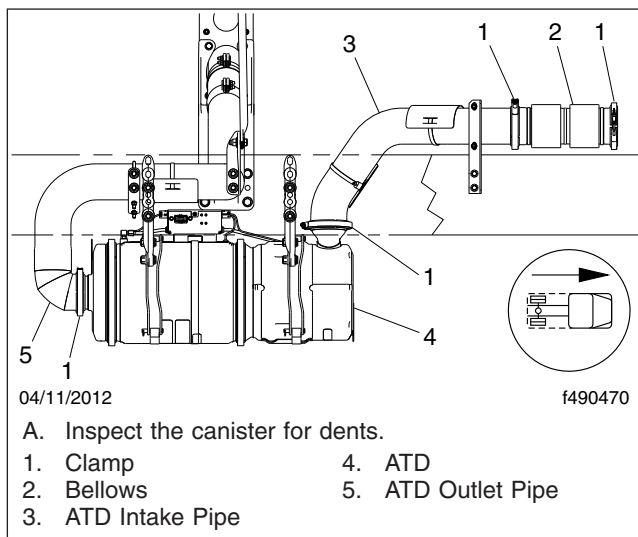

Fig. 4, Typical Aftertreatment Device (ADR2011)
IMPORTANT: The Australian Department of Infrastructure and Transportation regulations for 2011 (ADR2011) require lower exhaust emissions, thus requiring new exhaust system components. See **Fig. 4**. In particular the aftertreatment device (ATD), which is part of the aftertreatment system (ATS), requires special attention during regularly scheduled maintenance inspections. If any discrepancies are discovered, refer to the engine manufacturer's service literature for repair instructions.
7. Check the DPF exterior surface for dents or other damage. See Item A of Fig. 4. A dent over 3 inches (76 mm) in diameter and 1/4-inch (6-mm) deep could cause internal damage to the DPF, causing it to malfunction.